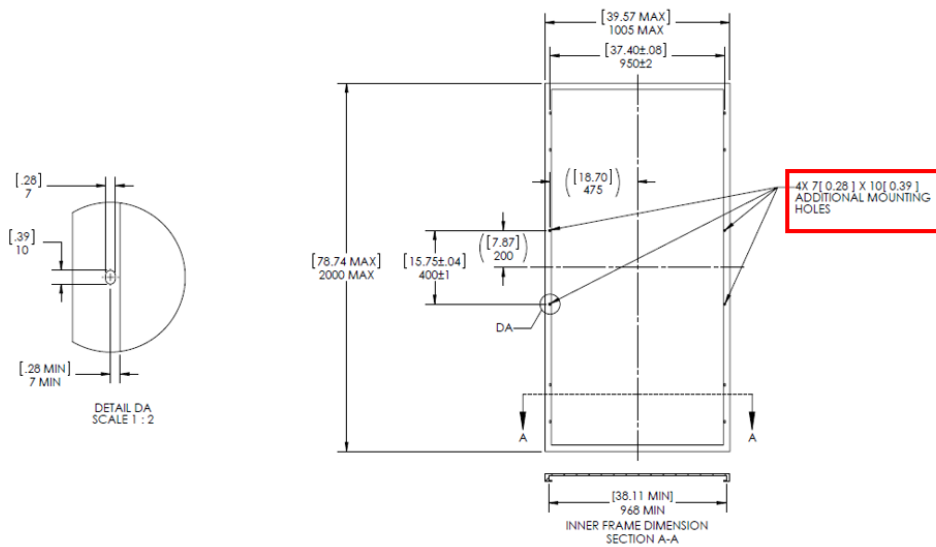

FIG 7. NEXTracker mounting holes at 400mm short rails
- If UNIVERSAL modules will be mounted on NEXT racker system at 400mm short rail. The special mounting holes should be designed as FIG. 7.